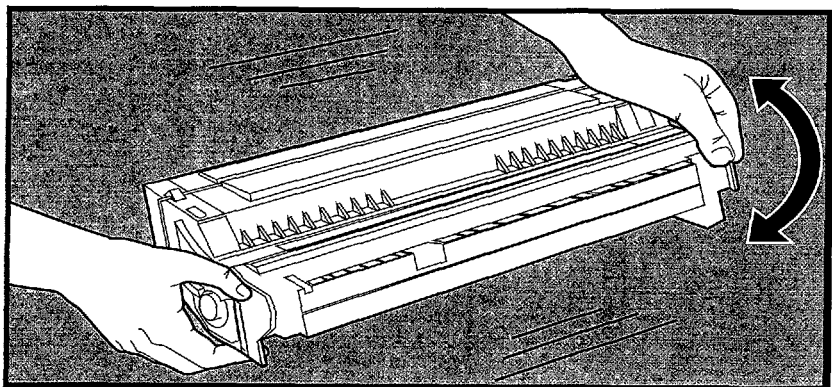

Figure 2-2 Distributing Toner
- Before installing a cartridge, distribute the toner evenly by rotating the cartridge back and forth five to six times (see Figure 2-2). Repeat this action when toner begins to run low.